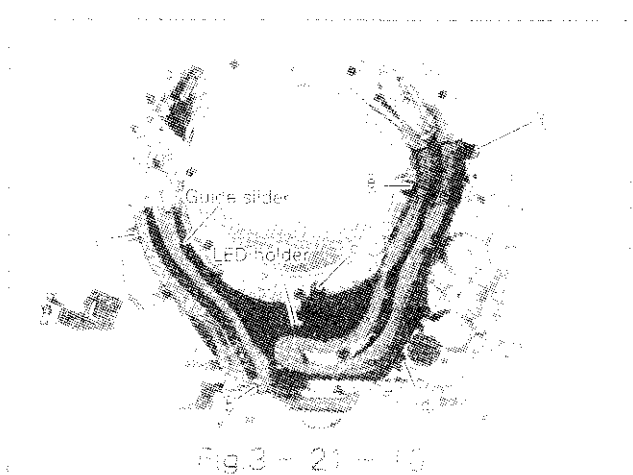

Fig.3-21-10
- 1) Attach the guide slider to the main plate and fix with 4 fixing screws (⑦, ⑧, ⑨, ⑩). (See Fig.3-21-10).